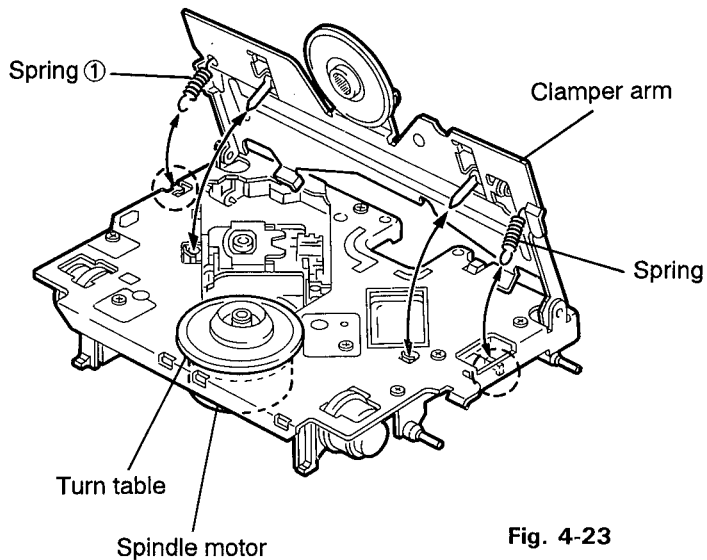

Fig. 4-23
1. After turning back the CD mechanism to initial position, remove the two springs ④ and ① on both the right and left sides of the clamber arm (See Figs. 4-23 and 4-24).